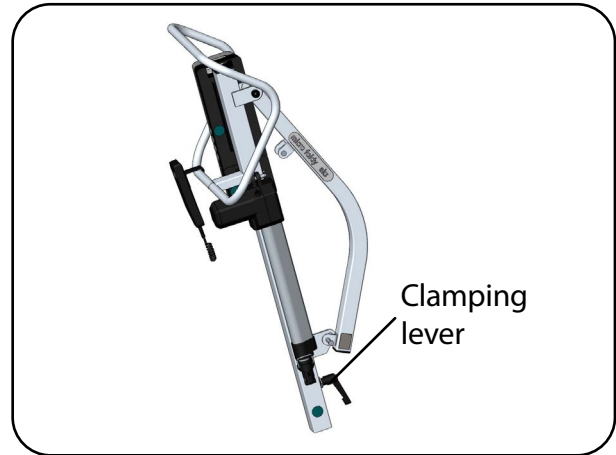

Fig. 6.2.02 – Stand mast
4. Temporarily unscrew the clamping lever from the stand mast (Fig. 6.2.02).